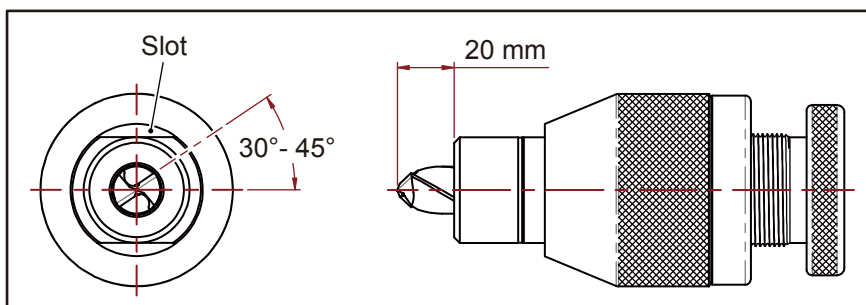

Fig. 6-2
4. Push the drill until the drill is protruded around 20 mm out of chuck set, the cutting edge of the drill higher than the slot of chuck set about 30° - 45°. (Fig. 6-2)